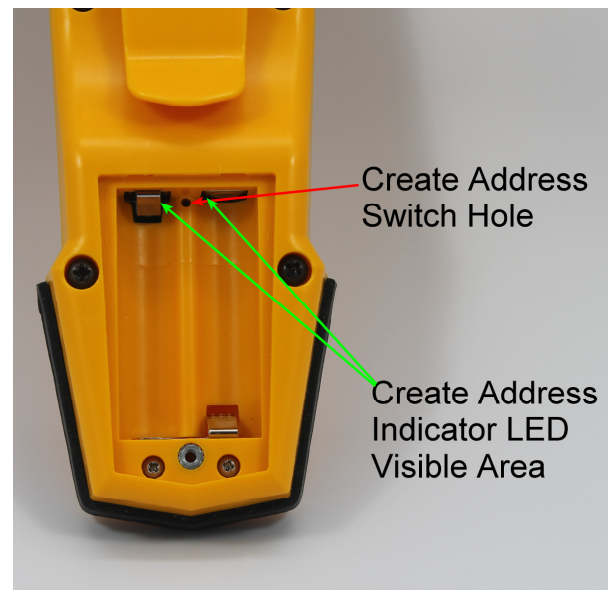

Figure 3: Create Address Switch and LED
- Using a small paperclip, probe, or similar item gently depress the “create address” switch for a short period of time. The “create address switch” is located between the two batteries. While the create address is depressed, the transmitter will illuminate the address indicator LED and randomize the address. The create address indicator LED is visible through the battery contacts by the create address switch. Refer to Figure 3 for location of the create address switch and the indicator LED area.